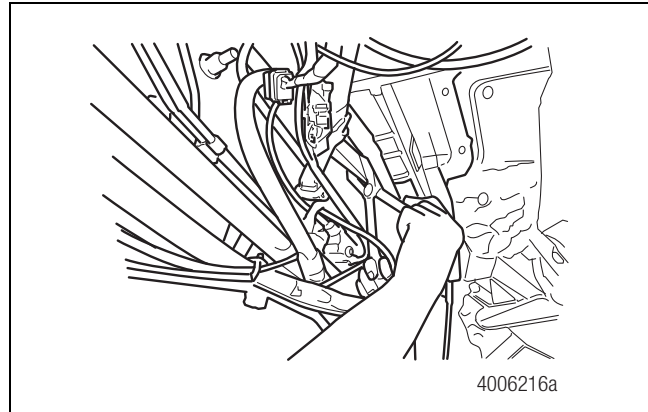

Figure 4.26
7. Use hose clamp pliers to clamp the rubber hose at least three-inches (76 mm) away from the entrance to the HCU reservoir. Use care to avoid damage to the plastic reservoir nipple inside the hose. Figure 4.26.